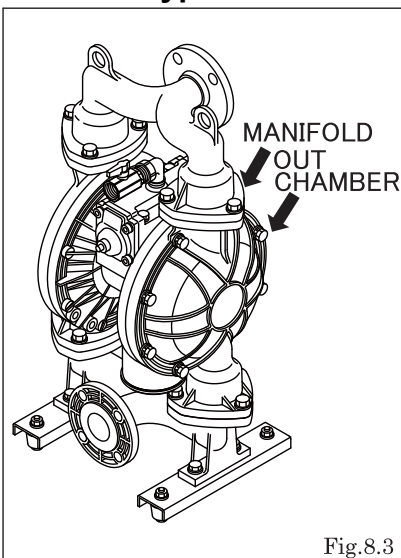

Fig.8.3
- Retighten the Out chamber and then the manifold in this order. [Fig.8.3]